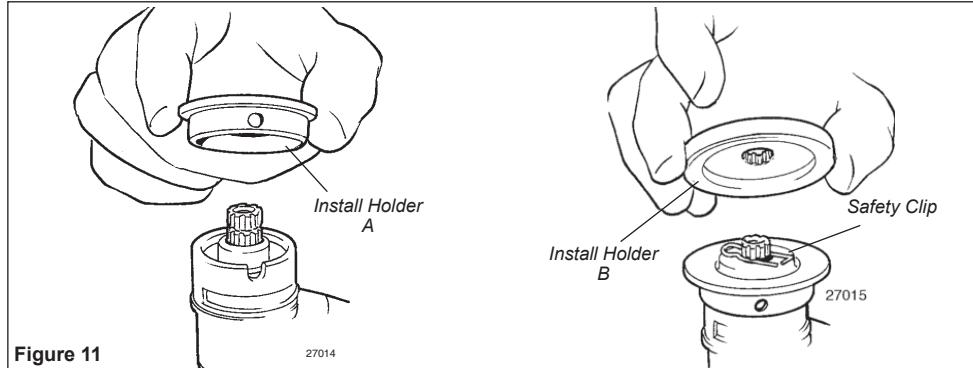

Figure 11
2. Position Holder A as shown and slide it onto the gearcase shaft. See Figure 11.
3. Install and center the safety clip on the gearcase shaft. See Figure 11.
4. Install Holder B on the gearcase shaft. The machined boss on Holder A must engage with the recess on Holder B. See Figure 11.